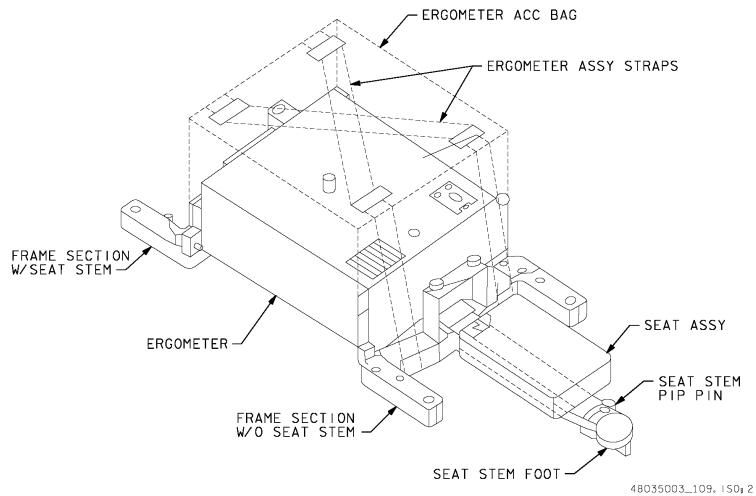

Figure 3-3.– Ergometer middeck launch/landing config (ergo assy).
14. Attach Ergometer horizontally to frame with pip pins (fig 3-3)
18. Mount frame to launch/landing position in middeck using frame/AQDs (four), with seat stem facing forward (fig 3-3)
Using Ergo Assy Straps attach Ergo Acc Bag to Ergometer (fig 3-3)